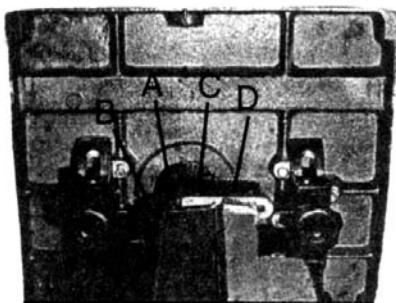

FIGURE 4
1. **LOWER GUIDE.** Locate the lower guide block assembly (A-Fig.4) and the two small hex. hd. bolts. Bolt the block to the mainframe, using the bolts and washers. Adjustment of the guide blocks and bearings will be necessary after the blade is tensioned and tracking properly.